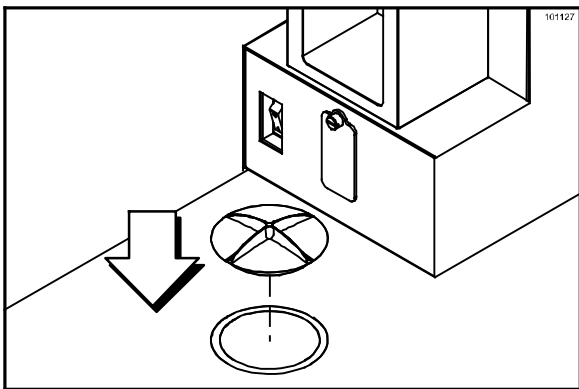

Figure 58
31. Take the whipped cream holder cover to the 3-compartment sink. Wash, rinse, sanitize, and then dry the cover with a single-use sanitized towel. Reinstall the cover over the opening on the machine. (See Figure 58.)